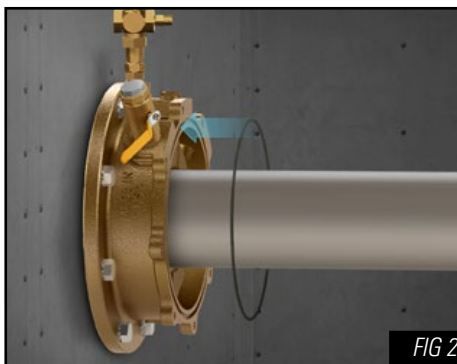

FIG 2
12. Install O-ring for the Mating Ring. Use light grease or o-ring grease on O-ring. (FIG 2)